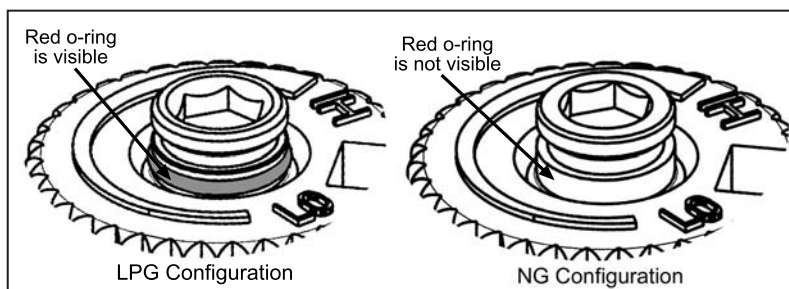

Figure 12: O-ring on valve screw.
f) Verify that if the conversion is from NG to LPG, the screw must be re-assembled with the red o-ring visible (refer to Figure 12). If the conversion is from LPG to NG, the red o-ring of the screw must be not visible.